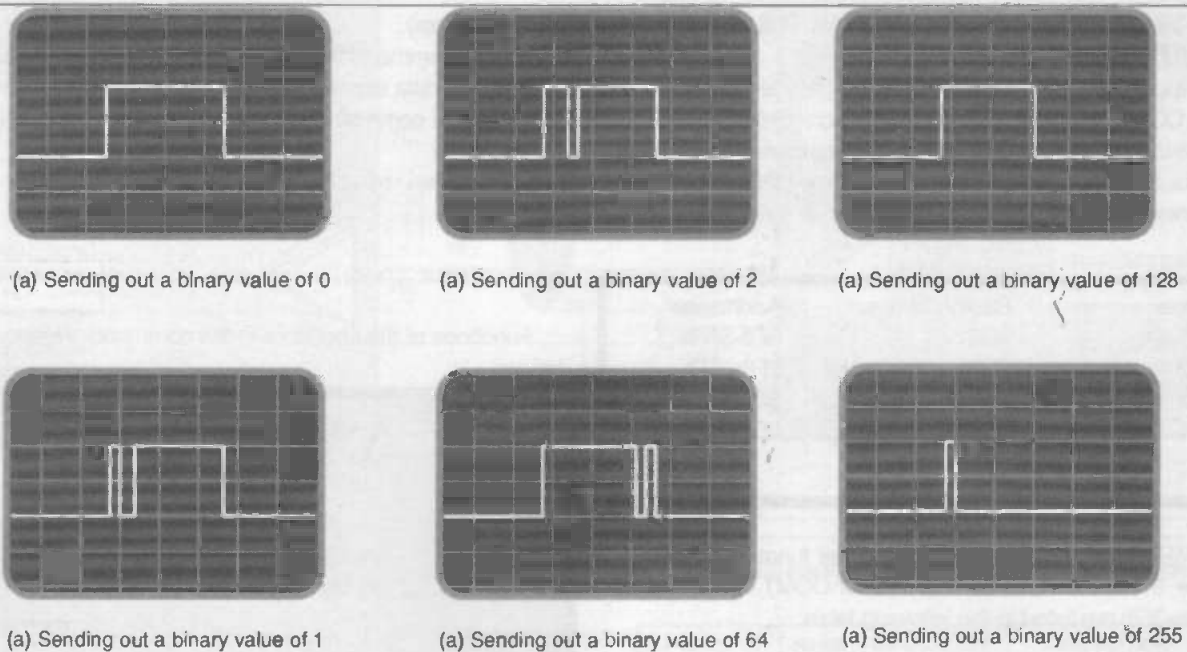

Fig.6 Waveform of TD signals shown on the oscilloscope when outputting a binary byte from the RS232 port.
STEP 4: Run the above program and observe the waveform of the TD signal on the oscilloscope. The control knobs of the oscilloscope should be finely adjusted. TD waveforms on the oscilloscope are shown in Figure 6 when sending values of 0, 1, 2, 64, 128 and 255 to COM1.